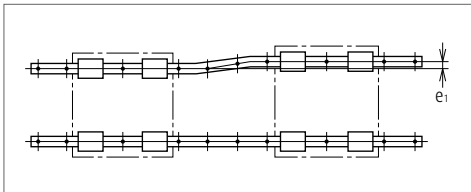

Fig. 10.5
- > **Figs. 10.5** and **10.6** are representing the mounting errors of e_1 and e_2 . Their permissible values are shown in the description of "**5. Installation**" of the each series.